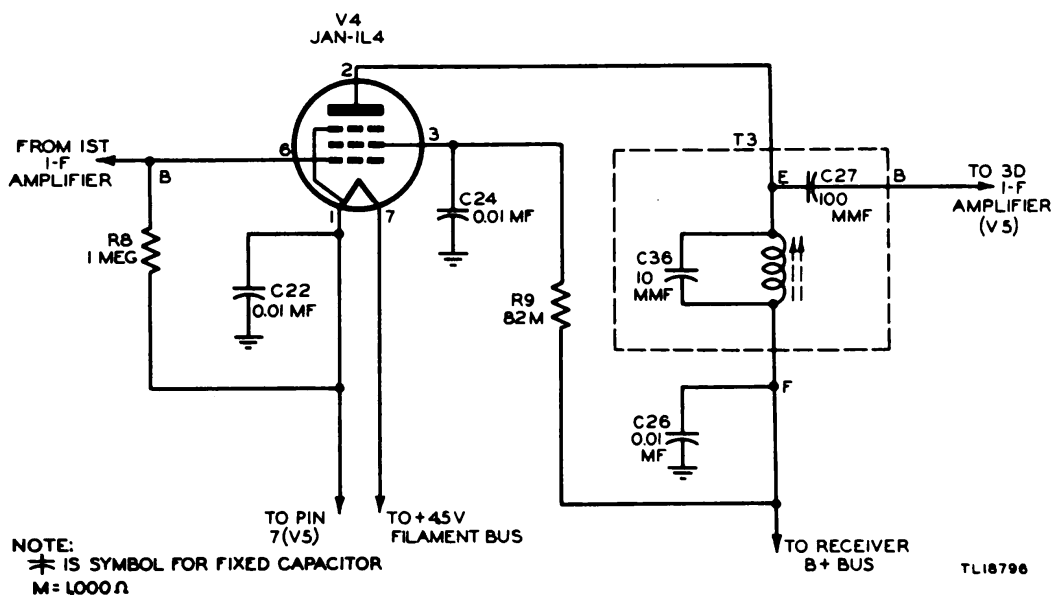

Figure 53. Receiver second i-f amplifier.
The second i-f amplifier stage (fig. 53) is similar to the first. Tube V4 (JAN-1L4) is used exactly as in the first stage, the input signal voltage is developed across grid resistor R8 and appears between the grid and filament. The tube operates with zero bias instead of with a-v-c bias as in the case of the first stage, because the grid is returned directly to the filament through resistor R8. The filament is bypassed for the intermediate frequency by capacitor C22. The plate load impedance is tuned in the same manner as in the previous stage and consists of capacitor C36 in parallel with the tunable inductance in T3. The plate is by-
a. The output of the second i-f amplifier is applied to the grid of the third amplifier tube (fig. 54) through capacitor C27 (fig. 53). The grid